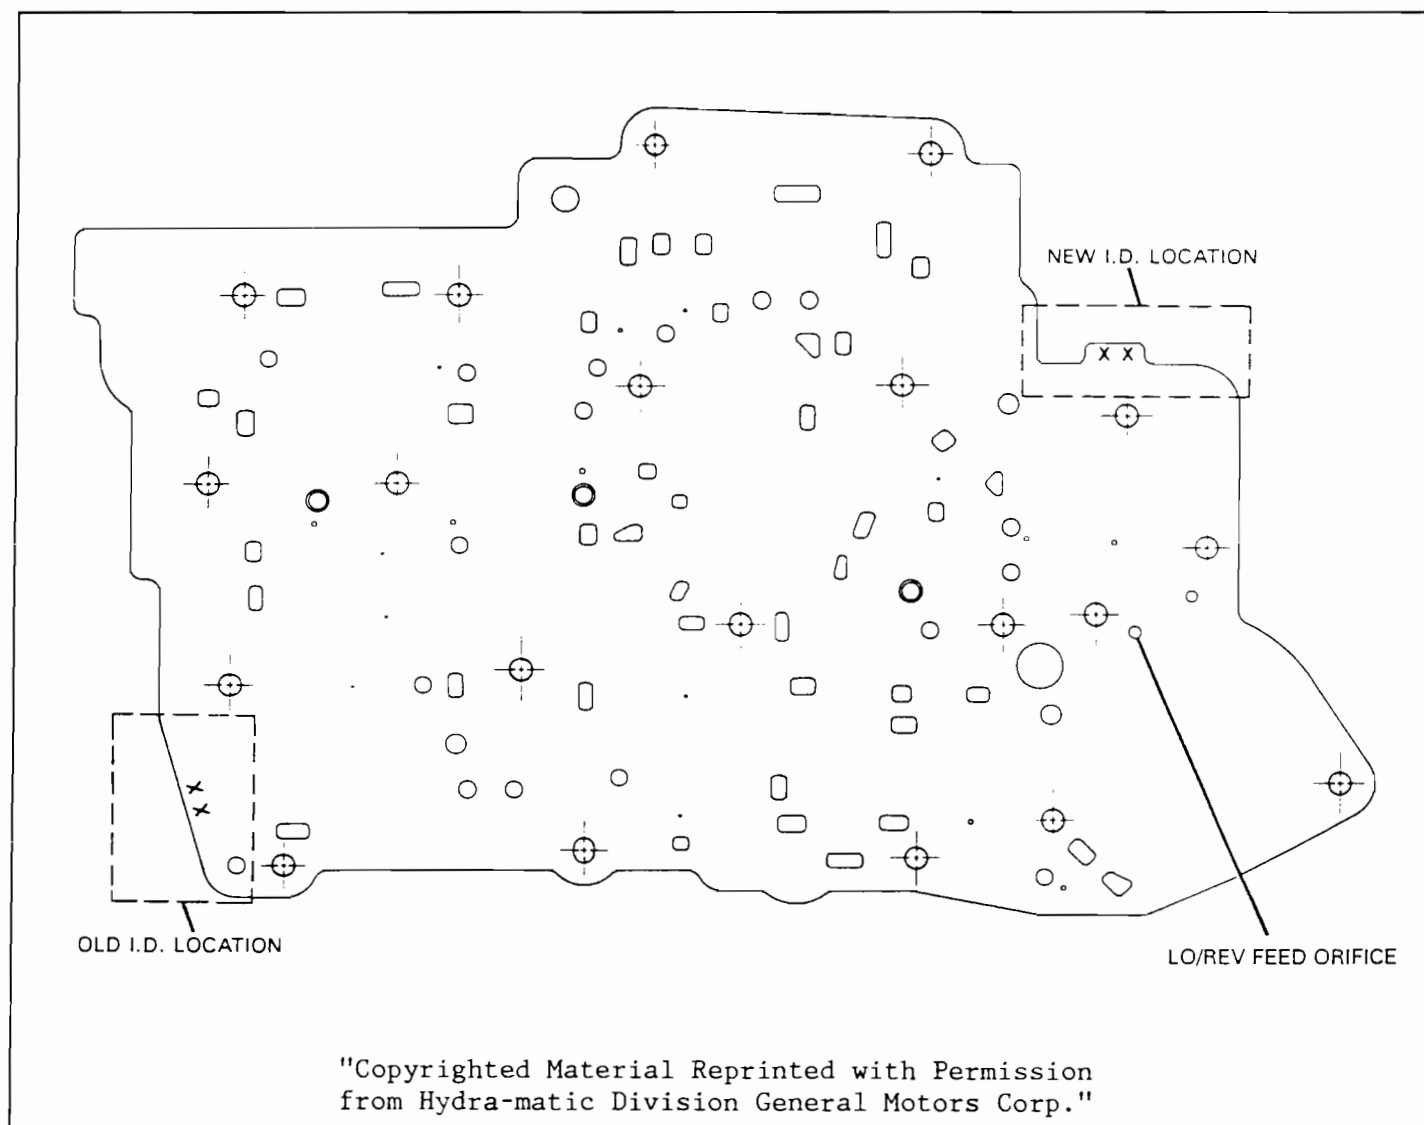

Figure 1
**CORRECTION:** Enlarge the LO/REVERSE feed orifice with a 1/8" drill bit. A revised spacer plate was used in all units produced after July 7, 1989. Refer to Figure 1 for orifice location in spacer plate.